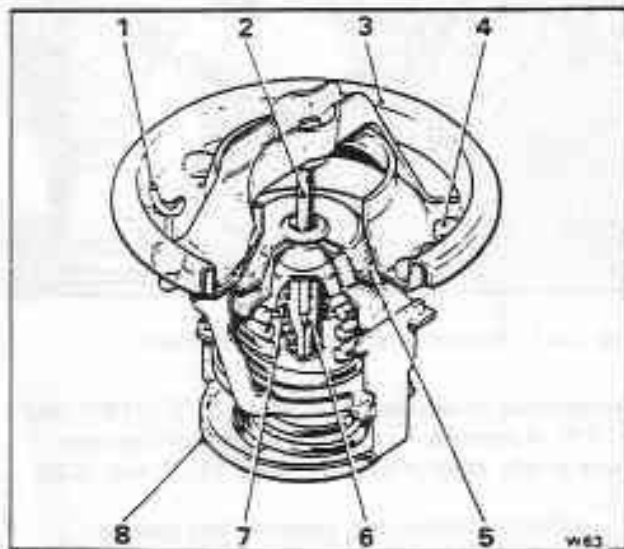

Fig. L3-2 Thermostat
The engine cooling system incorporates a wax element thermostat (see fig. L3-2). This reduces the engine warm-up time by recirculating the coolant leaving the engine back to the coolant pump, thus by-passing the radiator. As the coolant approaches its normal working temperature the thermostat opens and allows the engine coolant to flow through the radiator. When the thermostat is in the fully open position it closes the by-pass circuit.
7. Examine the condition of the fusible plugs situated around the top of the thermostat body (see fig. L3-2). Ensure that they are intact and in good condition.